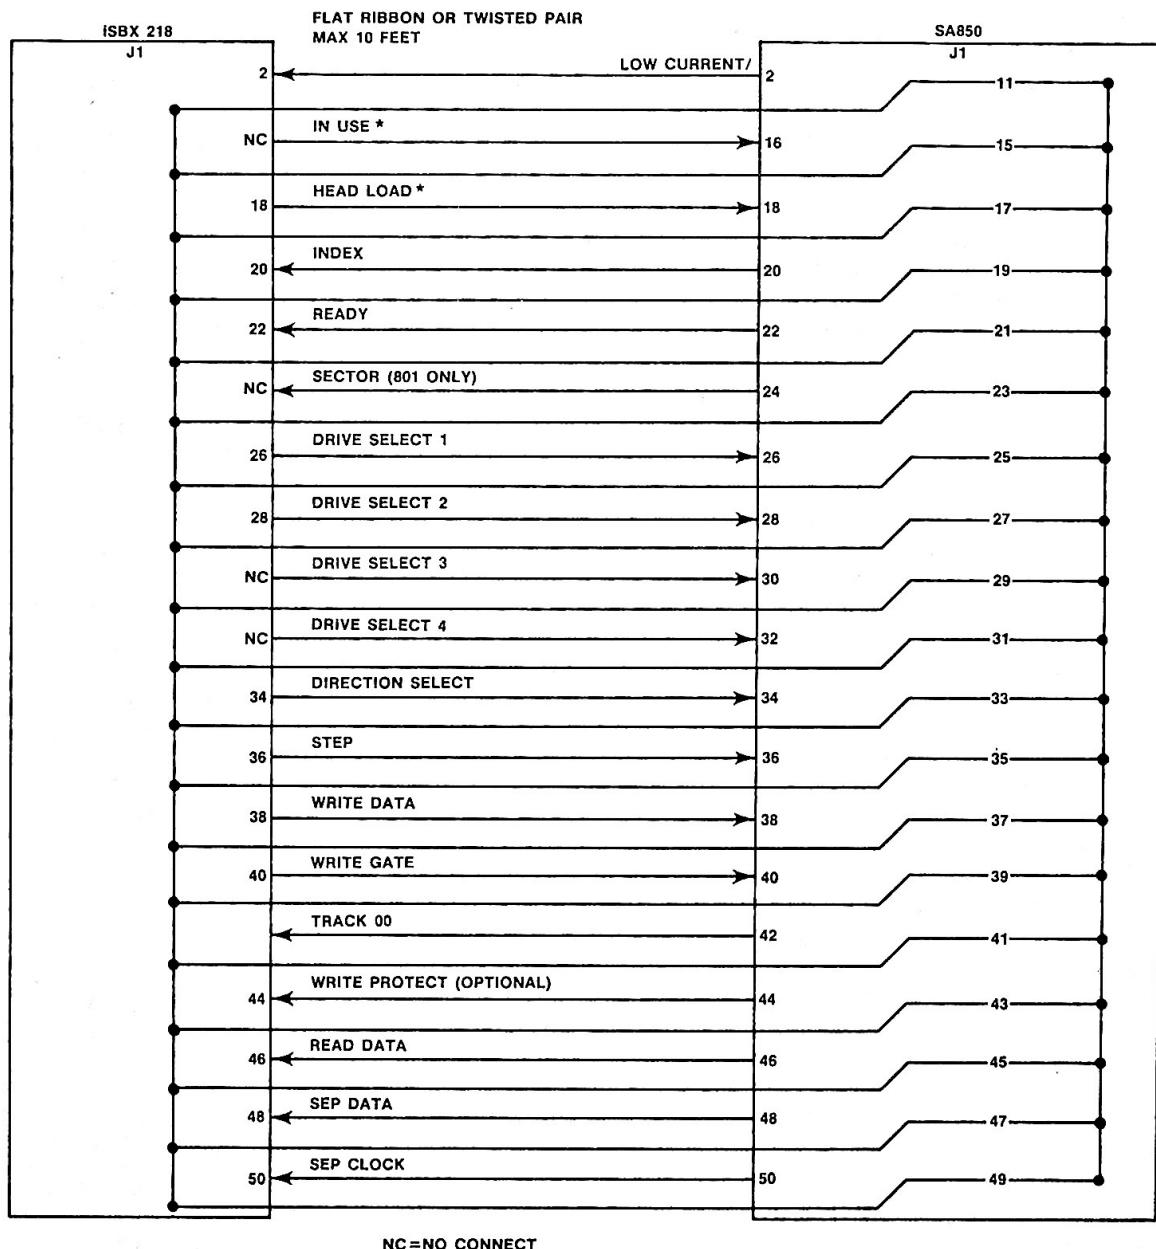

Figure A-4. Diskette Drive Interface Connector Schematic
1. Using an 18-inch, 50-conductor (28AWG stranded) flat cable (3M "Scotflex" P/N 3365/50), with an interface mating connector (3M P/N 3425-0000) on one end and a drive mating connector (P1) on the other end (see iSBX 218 Hardware Reference Manual, Figures A-4 and A-5), install the drive mating connector P1 on the floppy disk drive.